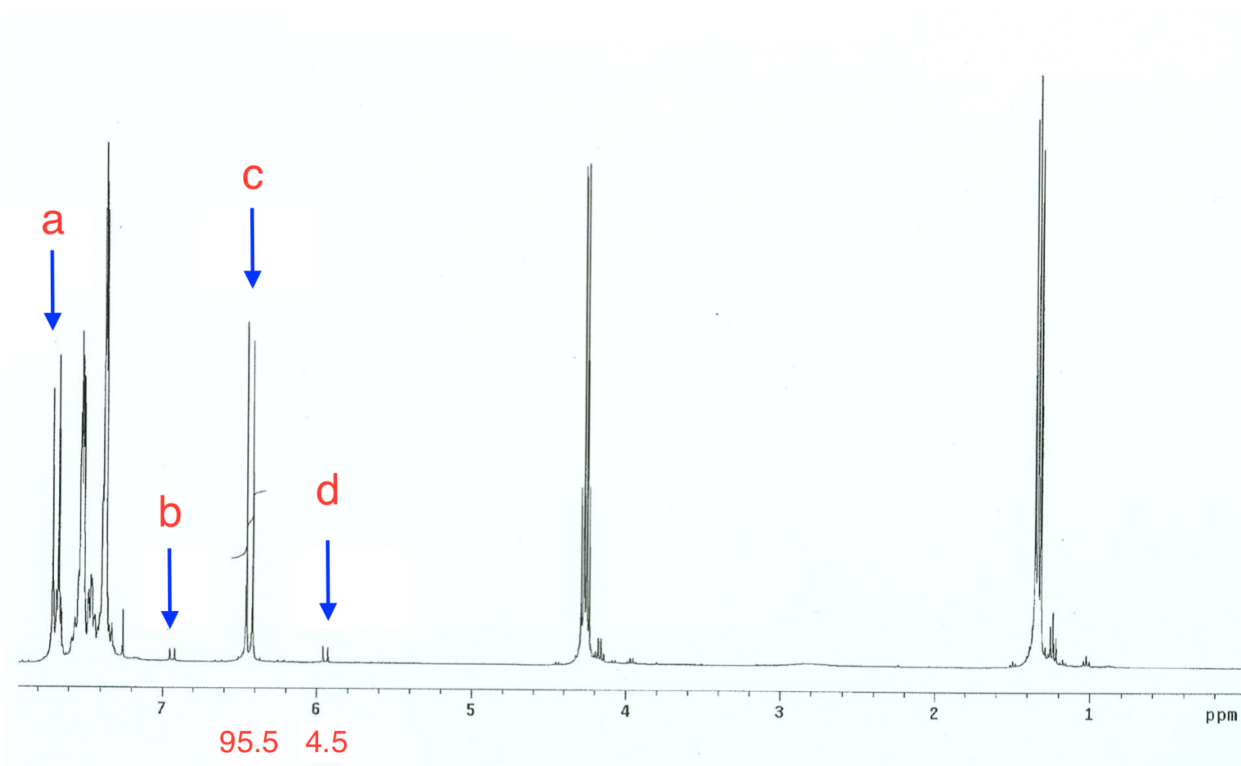

Figure 7. NMR Spectrum of Cis and Trans Ethyl Cinnamate
- 1) The  $^1\text{H}$  NMR spectrum shown below in figure 7 corresponds to the products isolated from the same Wittig reaction that you performed in lab. Using this NMR, answer the following questions.